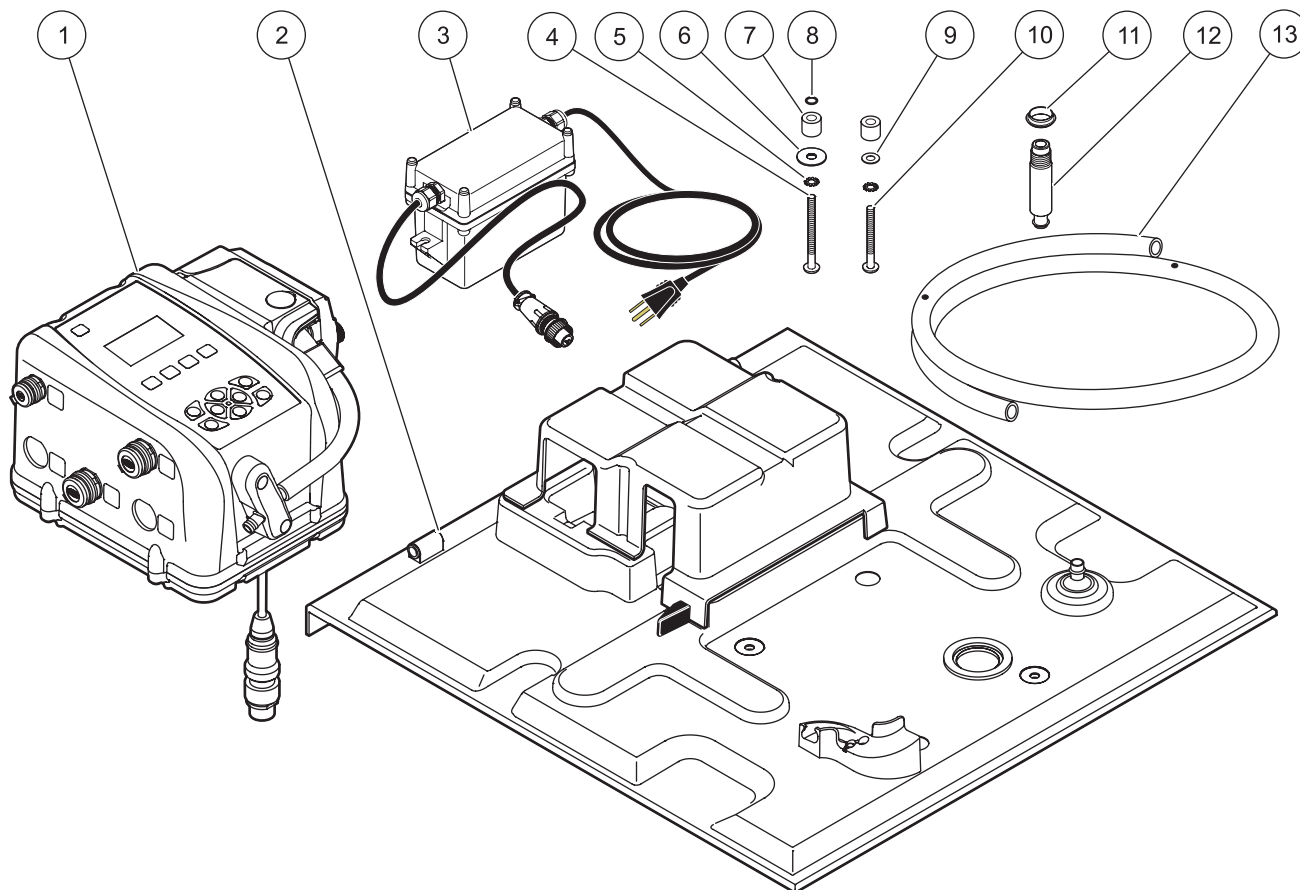
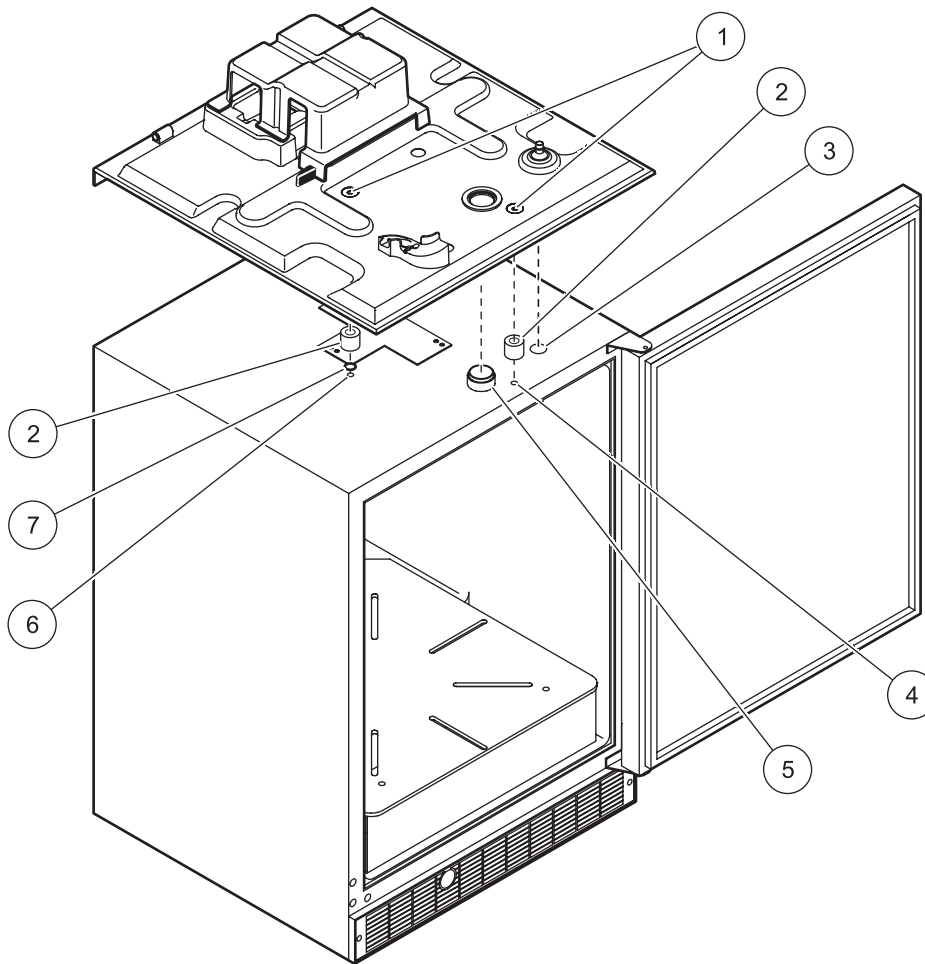

Figure 5 Components of retrofit kit 8759600 for the refrigerated sampler
Figure 7 Transition plate installation on the refrigerated sampler
The components of the retrofit kit for the refrigerated sampler are shown in Figure 5.
1. Position the new transition plate on top of the refrigerator so that the large hole in the transition plate aligns with the large hole in the refrigerator. Align the plastic tube fitting on the transition plate with the hole for the sample extension fitting (Figure 7).
2. Use the transition plate as a template and carefully mark the position of the two mounting holes on top of the refrigerator for the SD900 controller (Figure 7, item 1).
8. Install a lock washer and a $\frac{1}{4}$ x 1-inch fender washer on the 3-inch $\frac{1}{4}$ -20 screw (Figure 5). To install the screw, push it through the rear controller mounting hole until a $\frac{3}{4}$ -inch length protrudes above the refrigerator (Figure 7). To keep the screw from falling into the refrigerator, install the O-ring onto the screw (Figure 5). Install one of the $\frac{3}{4}$ -inch spacers onto the length of screw protruding above the refrigerator (Figure 7).